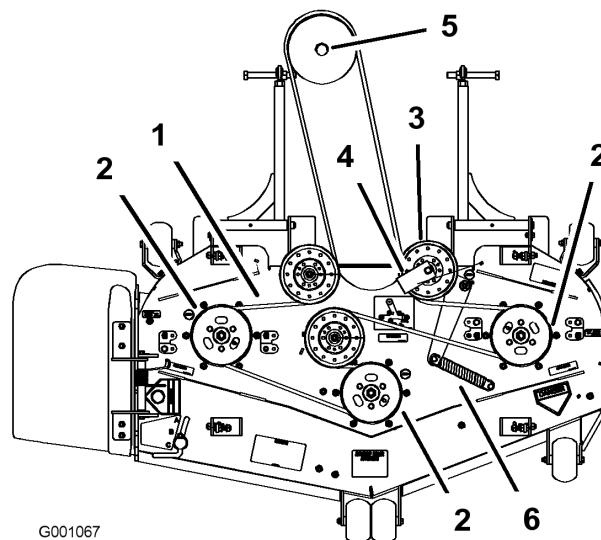

Figure 55
6. Install the new belt around the mower pulleys and the gearbox pulley under the engine (Figure 55).
7. Install spring to the idler arm (Figure 55).
8. Install the belt guide on the spring loaded idler at a 45 degree angle as shown in Figure 55.